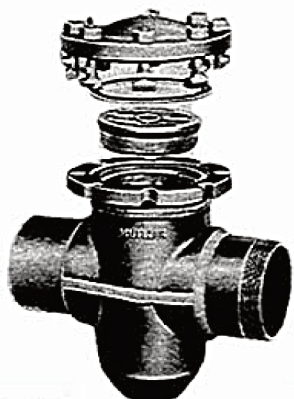

FIGURE 43
THESE INSTRUCTIONS APPLY TO FITTING H-17252. FIGURE 43.
4. Attach the fitting to the line at the point where the lateral connection is to be made. When using an H-17252 fitting (**Fig. 43**) with a welding inlet, shape inlet to fit pipe and place it in the desired position and weld it to the pipe line. Reinforce joint with split reinforcing saddle if desired.